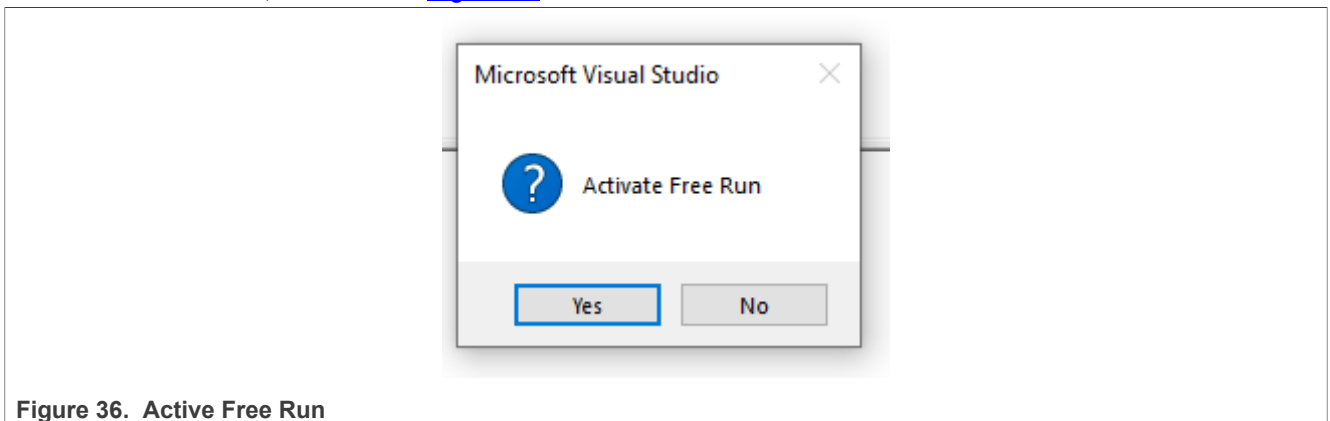

Figure 36. Active Free Run
4. Activate Free Run, as shown in Figure 36.